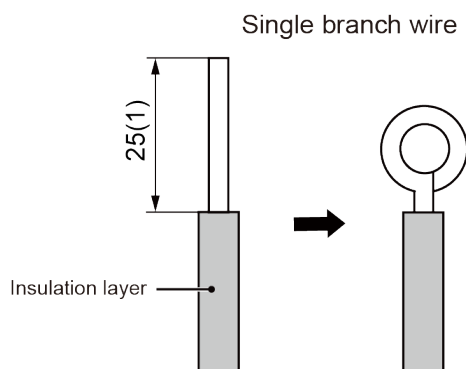

Fig.5.1.1
#### (1) Connection of Wire and Patch Board Terminal (as shown in Fig.5.1.1)